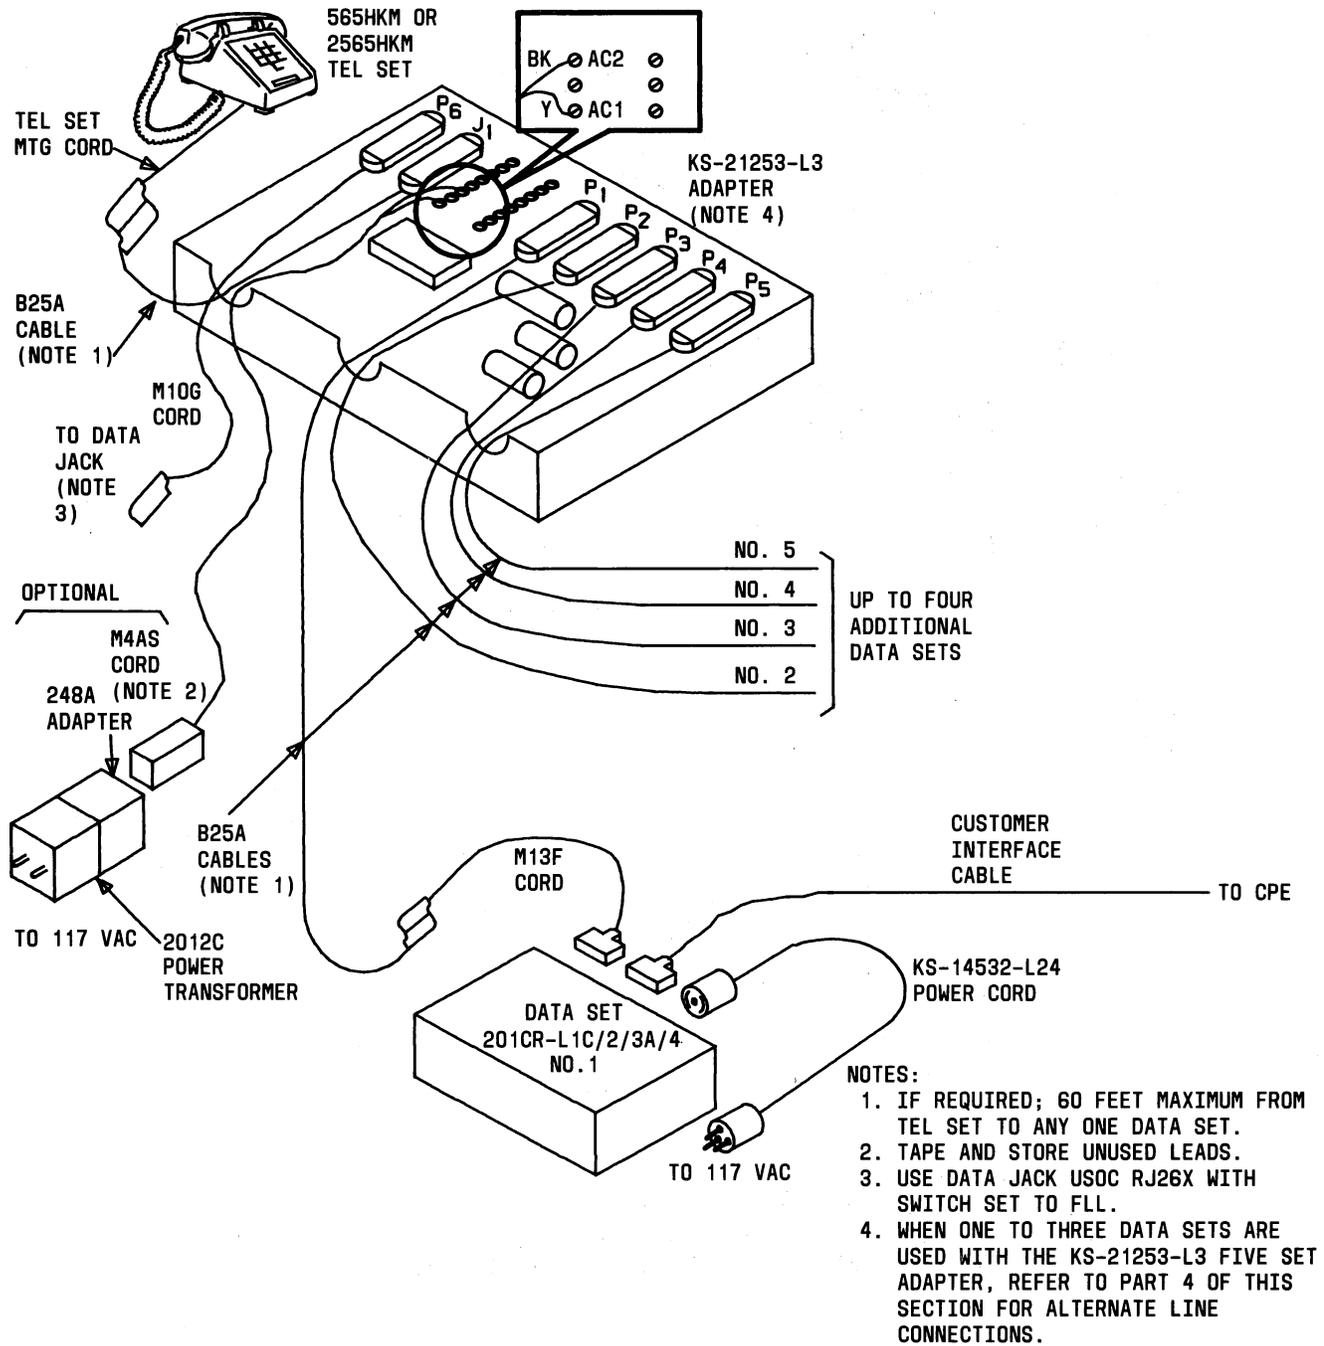

Fig. 11—One to Five Single Data Sets With Shared Telephone Set—Connection Diagram
- M10G cord (1)
- KS-21253-L3 adapter (1).
4.09 *One to Five Single Data Sets With Shared Telephone Set:* The connection diagram for this arrangement is Fig. 11.